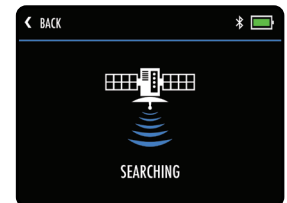

Fig 2 - Course Search
2. The trolley will display "Searching" while it acquires an accurate GPS location (fig. 2)